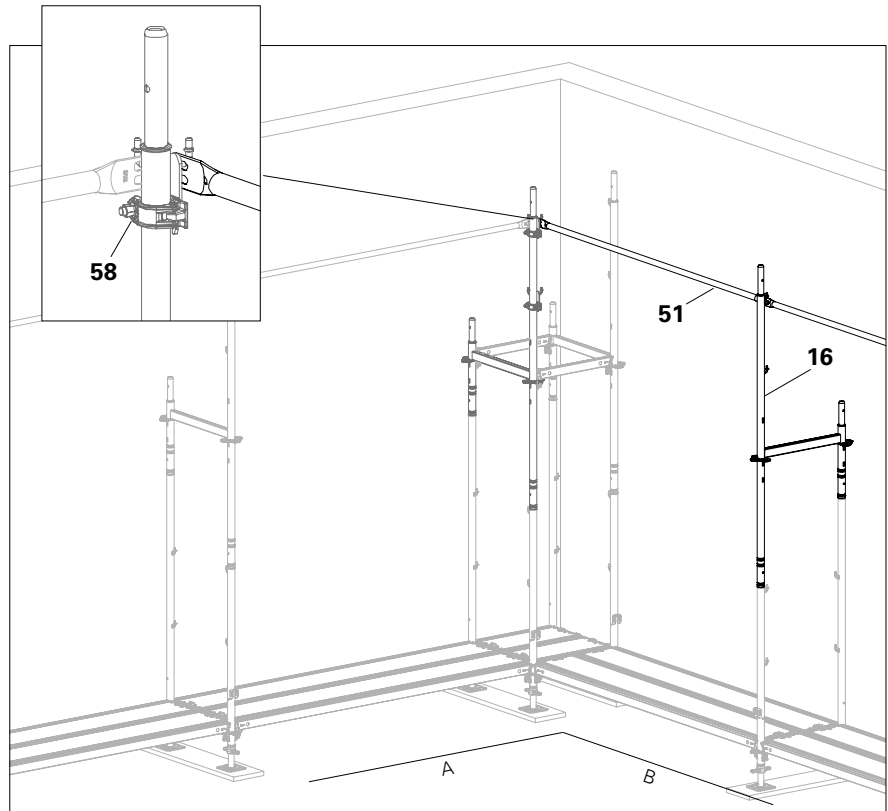

Fig. B6.09
7. For the second scaffold bay (B), attach the Guardrail Post EPG (51) to the Guardrail Coupling EPR (58) from the level immediately below.
8. Fit the other side of the Guardrail Post EPG onto the Easy Frame EVF (16), and then place in position. (Fig. B6.09)